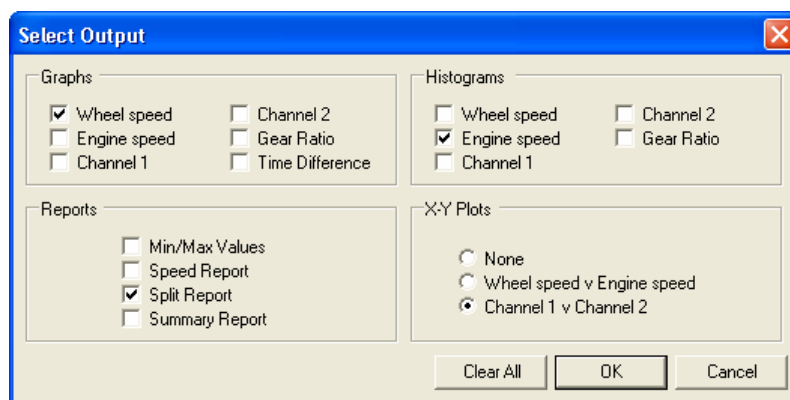

Figure 30 - Select Output Dialog
1. Select the **View ➔ Select Output** option from the main menu. The Select Output dialog (Figure 30) appears showing all the currently selected screen output items.